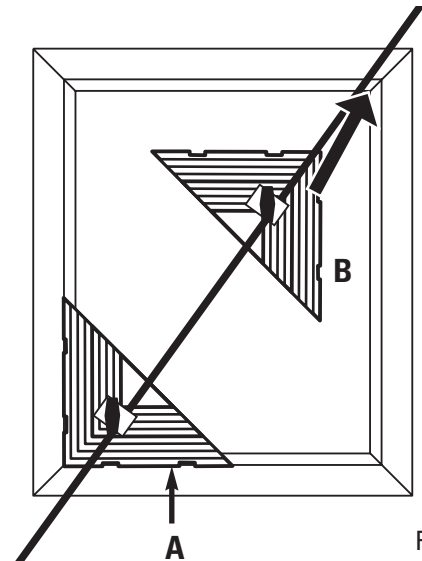

Fig. 3
Step 1 - Loosen the adjustment knobs on both the alignment triangles and slide triangle A into the lower left hand corner of the frame taking care to make sure the edges of the alignment triangle fit snugly into the corner of the frame. Tighten knob until secure (do not over tighten). (Fig. 3).